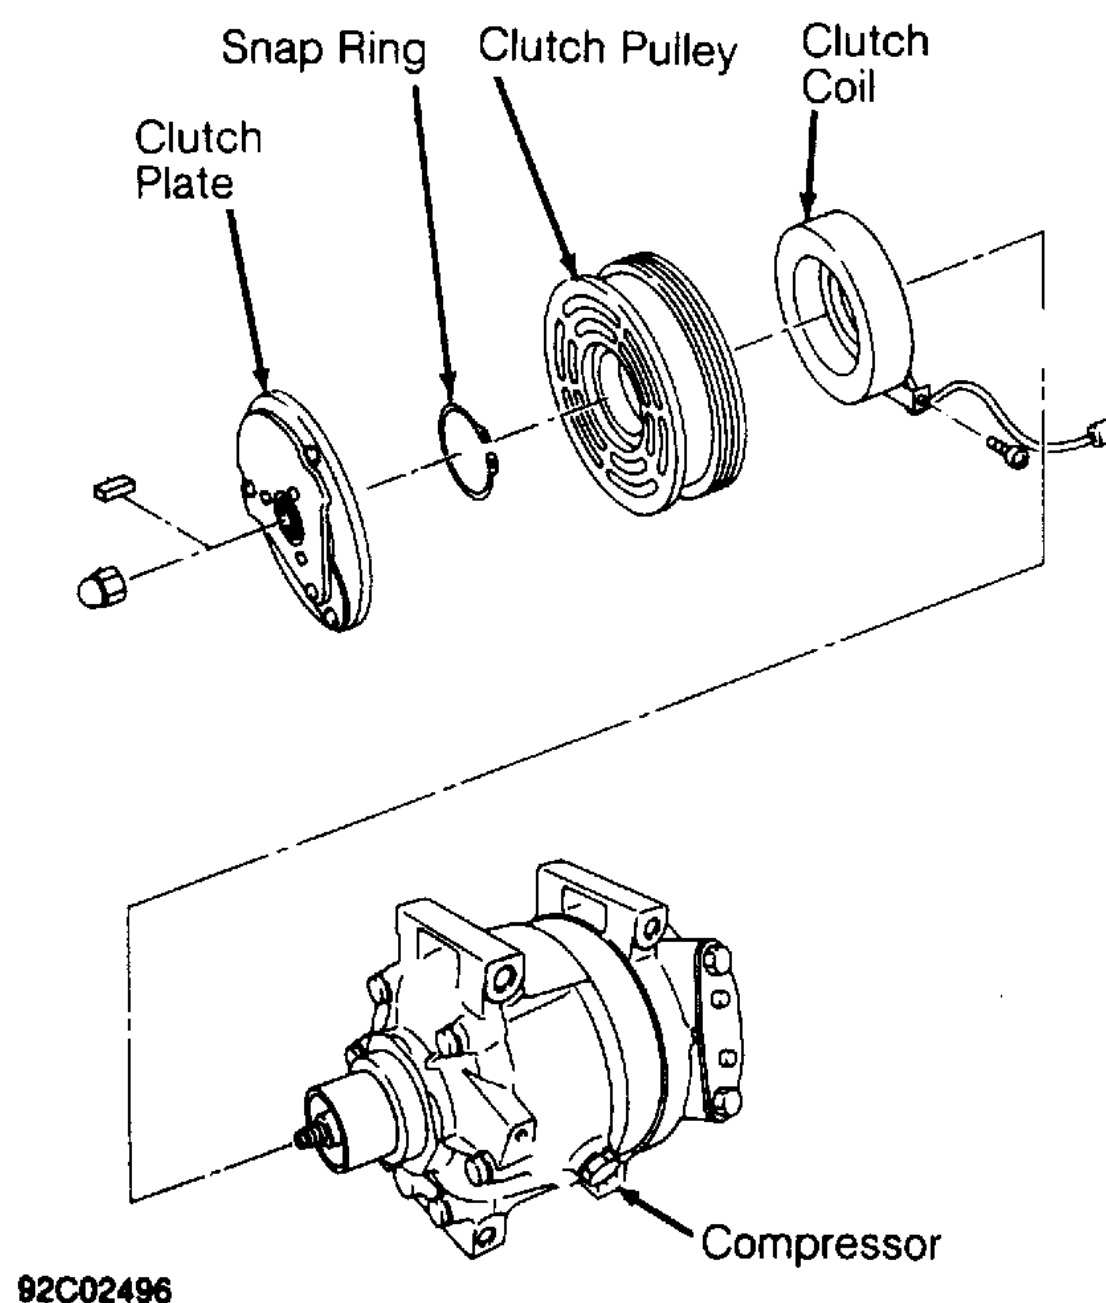

Fig. 3: Explode View of Compressor Clutch (Calsonic V5)
2. Use a universal gear puller to remove clutch pulley. See Fig. 3 .Remove screw securing clutch coil ground lead. Use puller to remove clutch coil.